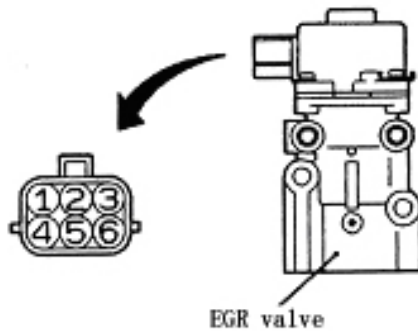

Fig. 10-17
- Remove the EGR valve, see Fig. 10-17.